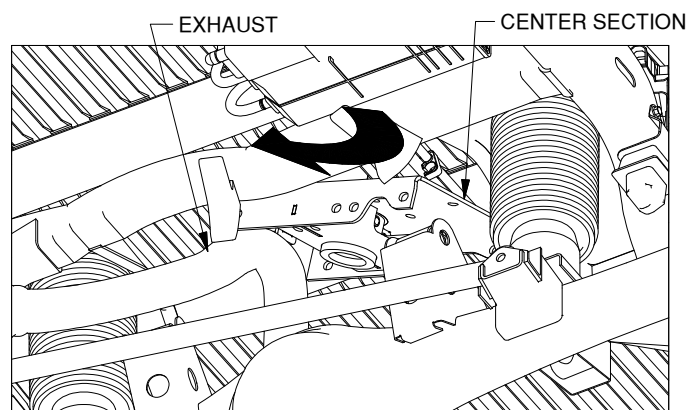
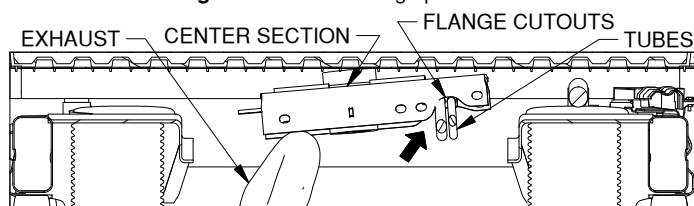

Figure B1: View looking up under truck.
Figure B2: Cutaway view looking at center section.
2. **Raise center section.** Pull down on the exhaust and push it to the driver side. With the latch pin side of the center going forward and the raised portion of the center up, guide the center over the exhaust, see Figure B1. Move the center section to the driver side so that the edge of the center section near the passenger side is past the two tubes which were disconnected earlier. While continuing to pull down, move the exhaust toward the passenger side of the vehicle. The two tubes will need to be pulled down and rotated to make room for the center. Move the center forward and toward the passenger side so that the center passes over the two tubes, see Figure B2. Once the two tubes are under the cutouts in each flange of the center section, move the center back toward the rear of the truck and let it rest on the exhaust and the tubes.